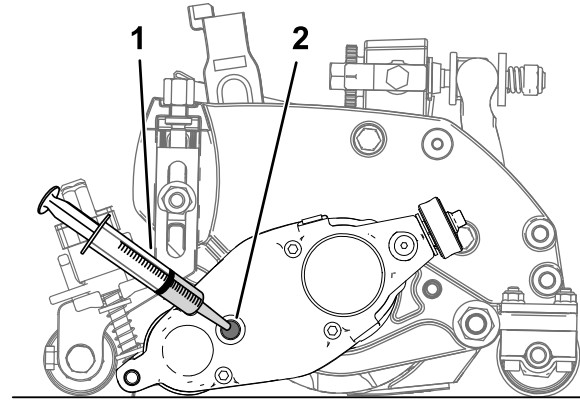

**Figure 31**
5. Tip the cutting unit vertically until the drain port is at the bottom to ensure complete drainage (Figure 31).